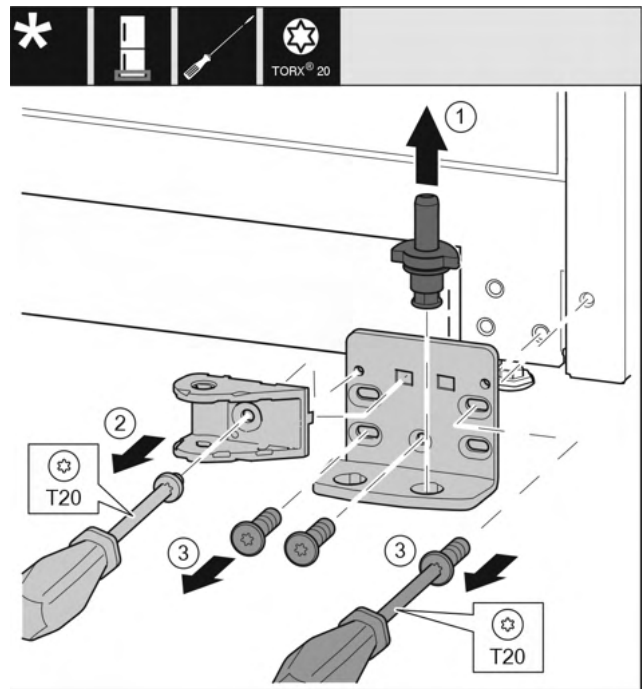

Fig. 33
- ▶ Completely pull out the bearing pin Fig. 33 (1) upward.
- ▶ Use a screwdriver to unscrew the screw Fig. 33 (2) and remove the closing damper connection.
- ▶ Use a screwdriver to unscrew the screws Fig. 33 (3) and remove the swap bearing block.